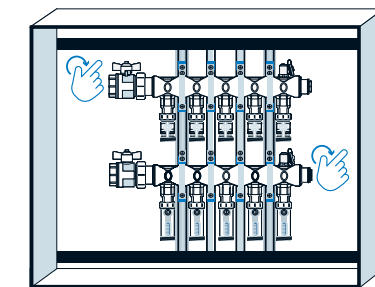

Figure 9: Ensure rail is behind top mounting bracket
4. Rotate the top of the manifold assembly vertical supports to the right or left so they slide behind the top rail lip (see **Figure 9**).